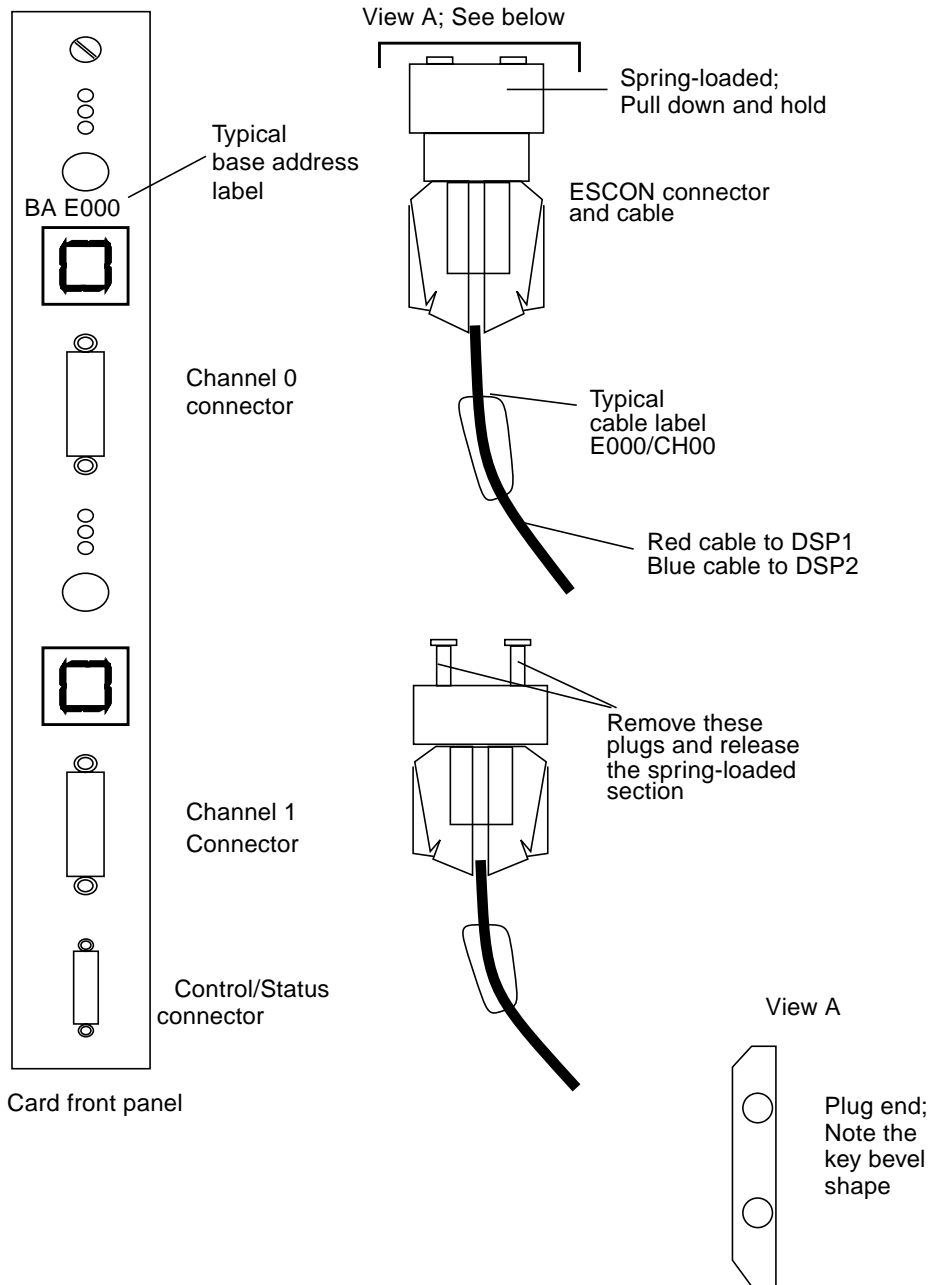

FIGURE 2-7 ESCON Controller and Cable
For systems that include the VME to ESCON controller, ESCON cables inside the cabinet are shipped uninstalled. The controller card ships with protective cover plugs installed in each channel connector. Refer to FIGURE 2-7.
2. **Inside the rear of the A7000, locate the VME to ESCON controller cards for dsp1 and dsp2 in each dsp’s 14-slot chassis. See the depiction of the card front panel in FIGURE 2-7.**